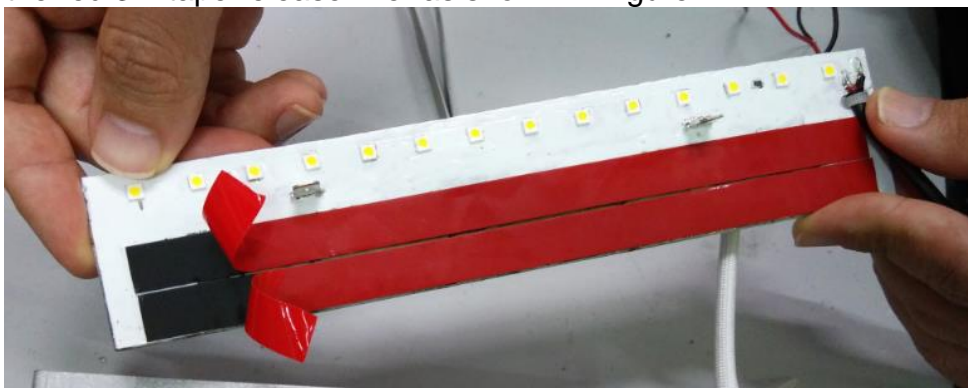

Figure 2: Backlite LED module with 3M tape release liner
1. Unpeel the red 3M tape release liner as shown in Figure 2.